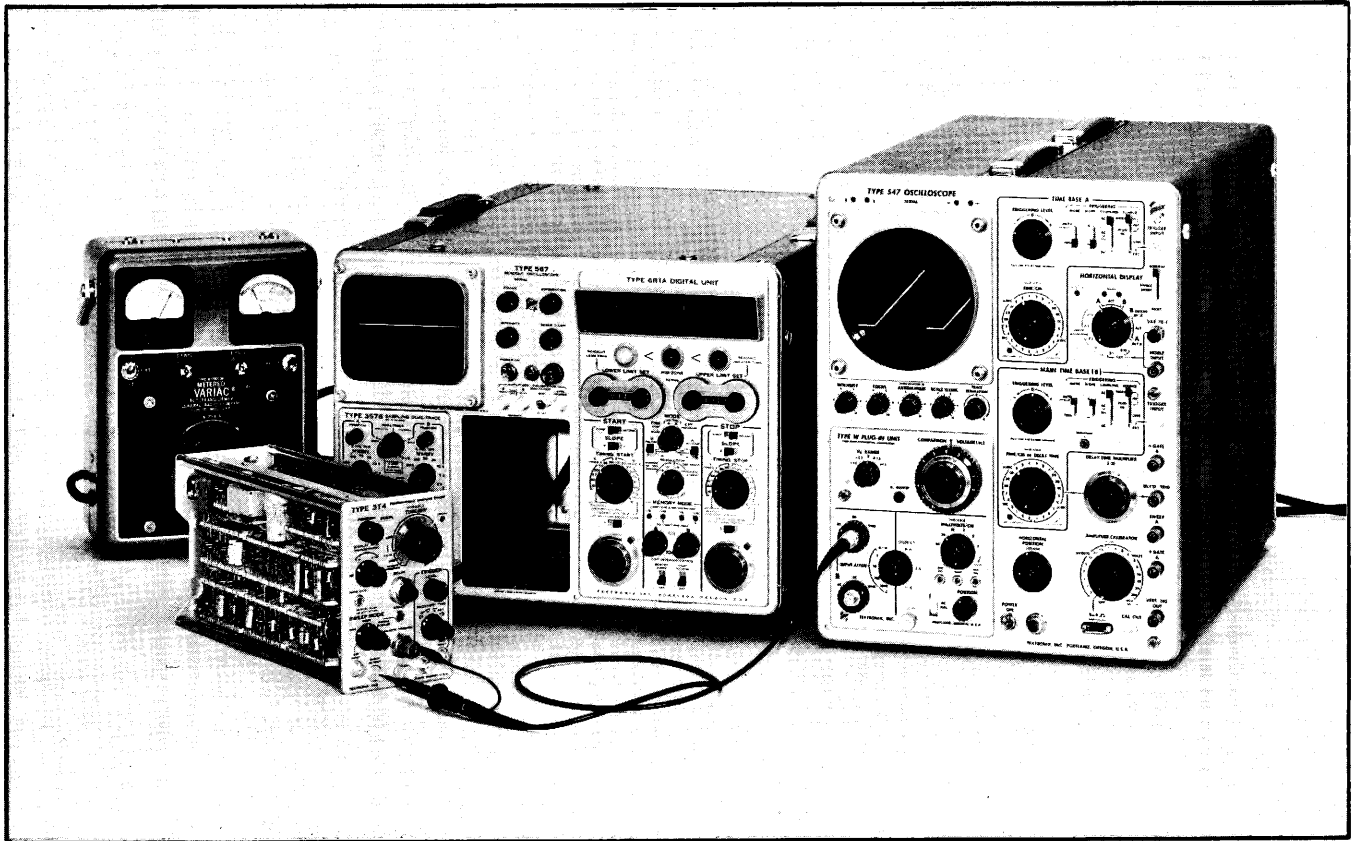

Fig. 5-19. Step 13 test setup to check signal amplitude at SWEEP OUTPUT connector.
- a. Connect and set up the test oscilloscope as shown in Fig. 5-19.